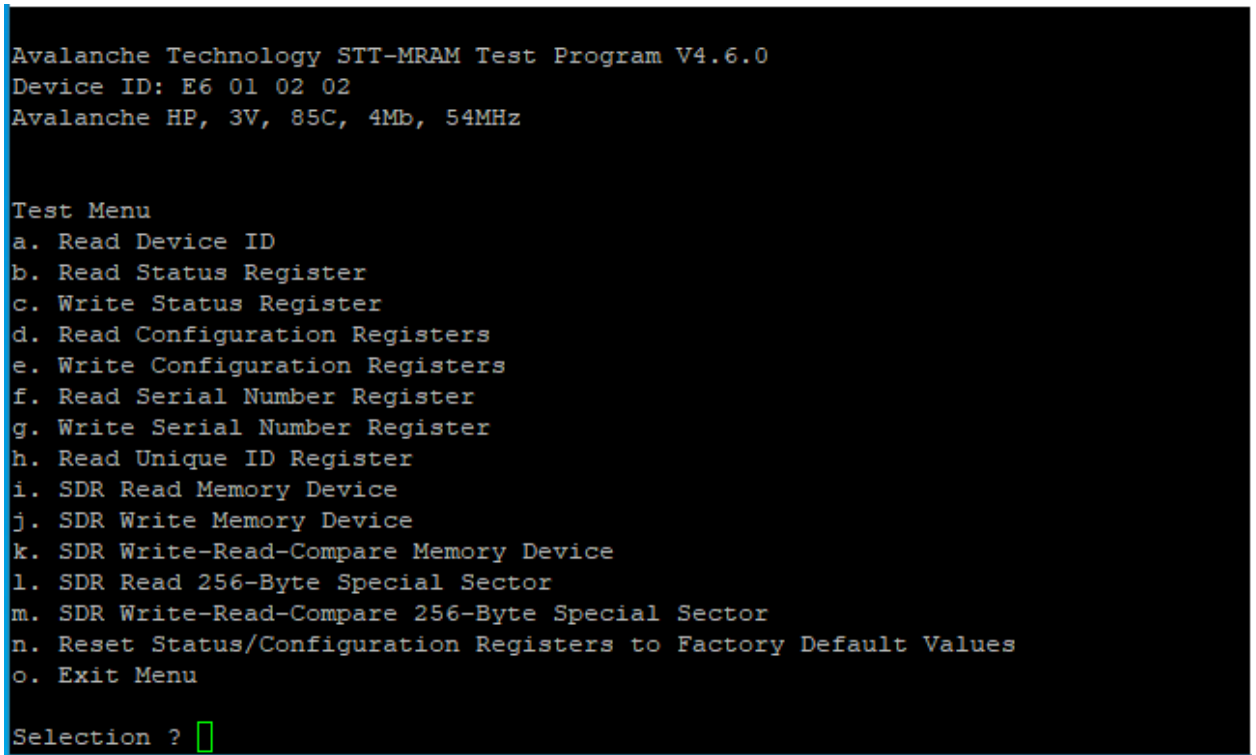

Figure 10: Renesas Test Menu on MRAM - PuTTY
10. The Arduino UNO host board and the Renesas MRAM evaluation board are now up-and-running. The Terminal Monitor window will display a menu of read/write/compare tests for the Renesas MRAM device (refer to Figure 10).